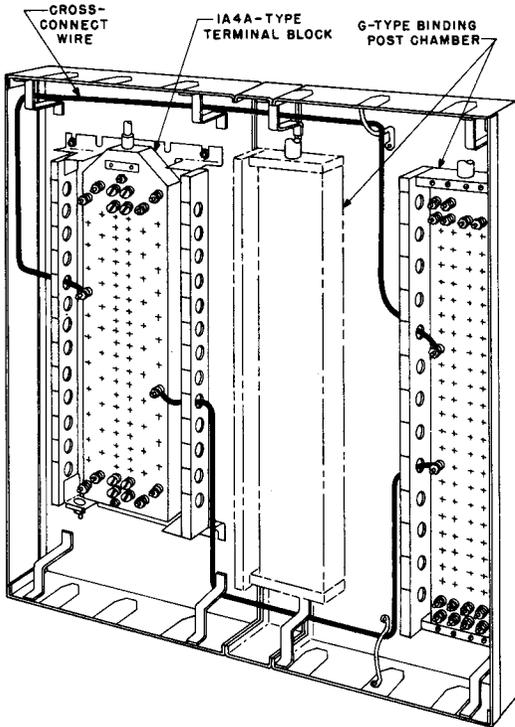

Fig. 13 - Cross Connecting in Fuseless-type Protected Terminals
9.01 Terminal blocks 1A3A and 1A4A, identical in appearance, are similar to the NH-type cable terminal. Fig. 13 and 14 show protected terminal block 1A4A-26 wiring arrangement when mounted in 1A1 and 2A1 terminal sections.